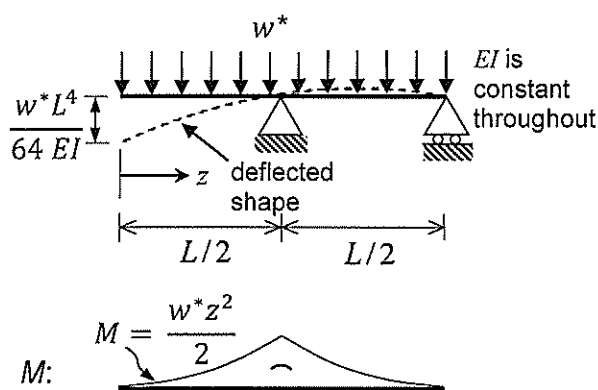
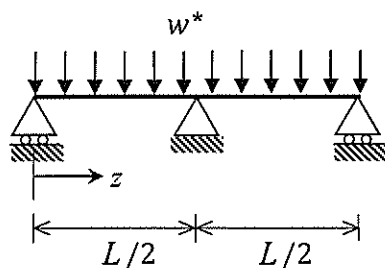

Figure 4c
Figure 4e
- (c) Figure 4c shows a uniform simply supported beam subjected to a uniformly distributed load. The bending moment distribution for the beam and the vertical deflection at $z = 0$ are also given in the figure.
Figure 4e shows the same beam loaded as in Figure 4c but with an additional simple support at $z = 0$.
For the beam shown in Figure 4e: